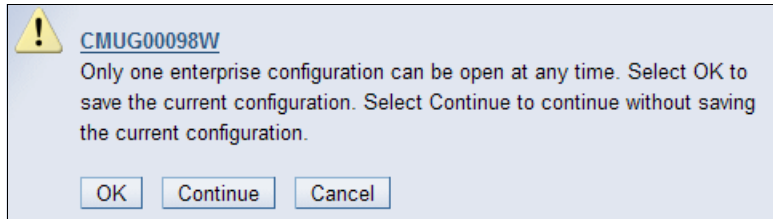

Figure 12-2 Create new configuration warning window
- Now because only one configuration file can be open at a time, you will get a warning message, shown in Figure 12-2. If you have been working on a configuration file and you do not wish to lose your work so far, It is very important you *do not* choose **Continue**. Instead, choose **Cancel** or **OK**.